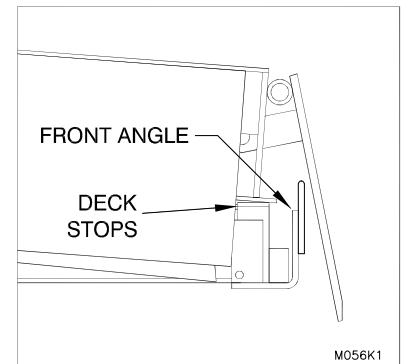

Figure 59: Pendant Position
2. Release the raise button and allow the deck to lower onto the deck stops with the lip in the pendant position; outside the front angle (See "Figure 59: Pendant Position" on page 49).
4. Release both buttons and allow the deck to lower onto the deck stops with the lip in its pendant position outside of the front angle (See "Figure 59: Pendant Position" on page 49).